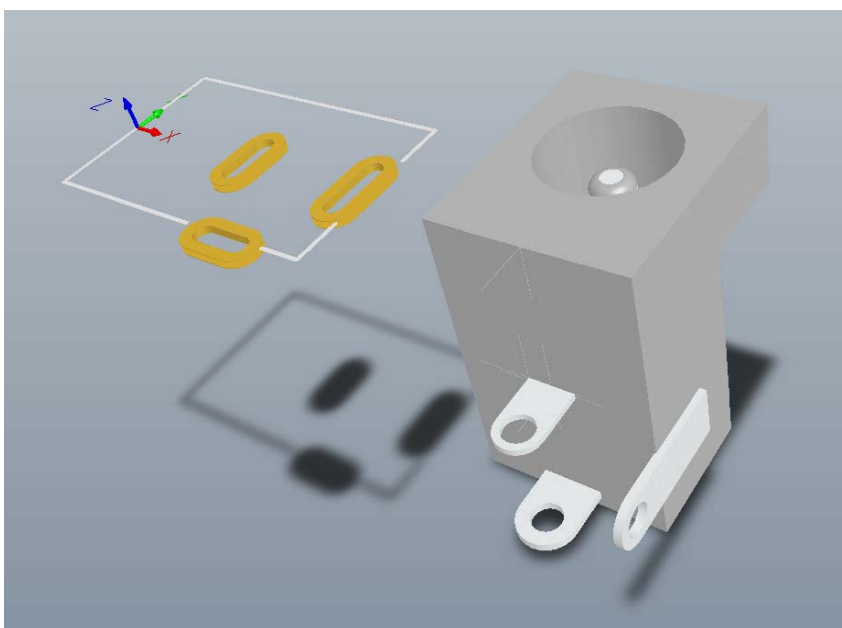

Figure 16. STEP model imported into a footprint, note that it has a different orientation from the footprint.
8. The model will have a different orientation to the footprint, as shown in Figure 16. Before attempting to re-orient it, we will add a Snap Point to the model origin. To do this, double click on the upper-most face of the model to open the *3D Body* dialog. Click the **Add** button to add a Snap Point, and **OK** to close the dialog.